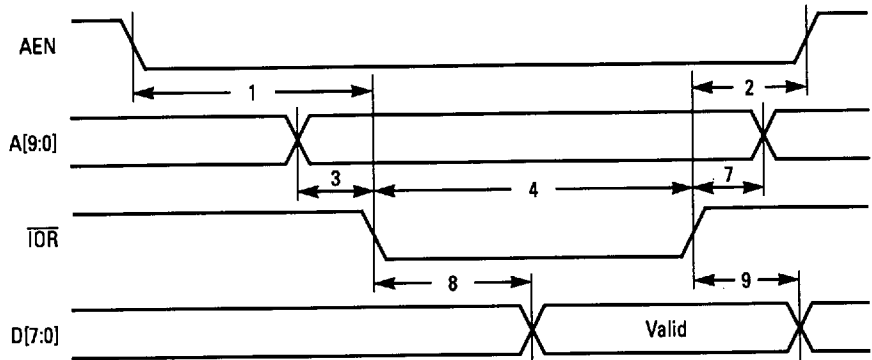

Figure 5.3
- Figure 5.3, "XDATA Control Timing"